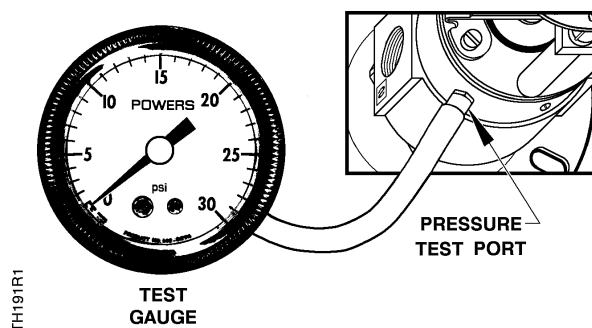

Figure 10. Using the Pressure Test Port.
4. Loosen the test port screw about 1/2 turn, and slip a 3/16-inch I.D. rubber hose connected to the test gauge over the pressure test port. See Figure 10.